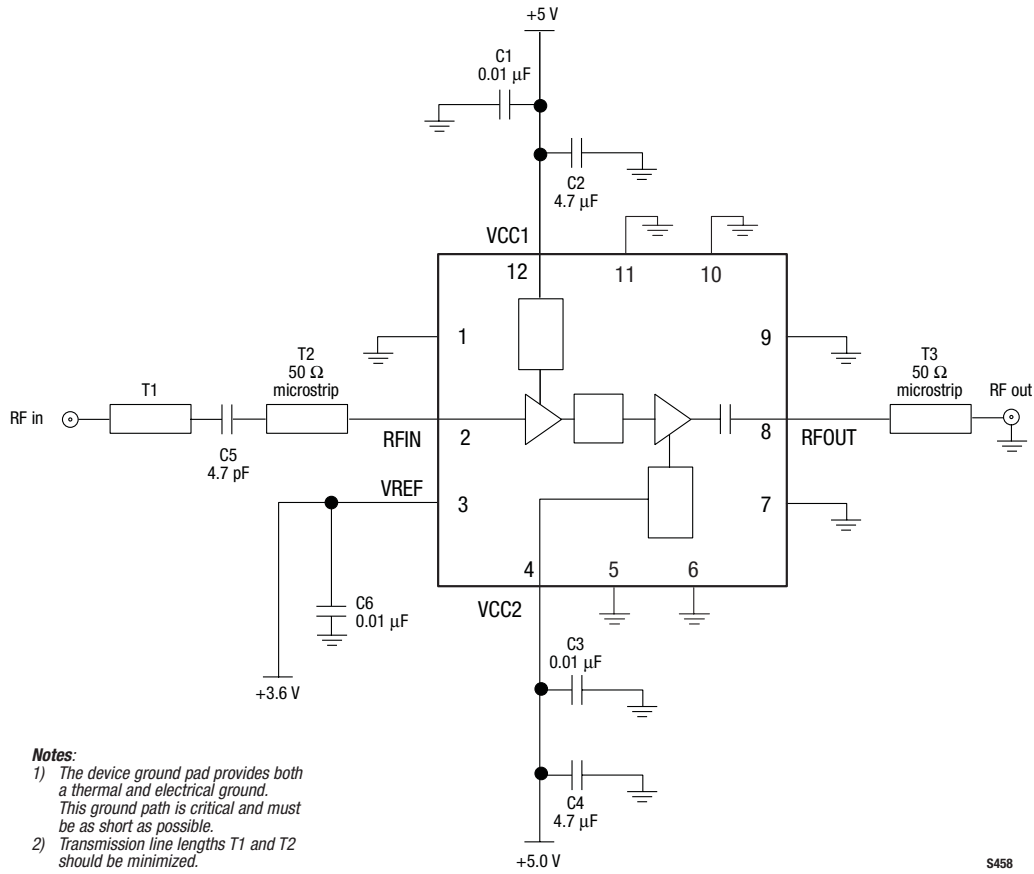

Figure 11. Evaluation Board Schematic, 1700 MHz to 2200 MHz
Skyworks SKY65105 Evaluation Board is used to test the performance of the SKY65105 PA. The Evaluation Board schematic diagram is shown in Figure 11. The schematic shows the basic design of the board for the 1700 to 2200 MHz range. An assembly drawing for the Evaluation Board is shown in Figure 12 and the layer detail is provided in Figure 13.
3. Two external output bypass capacitors (0.01 μF and 4.7 μF) are required on the VCC1 (pin 12) supply input. The same two capacitors are also required on the VCC2 (pin 4) supply input. Both capacitors should be placed in parallel between the supply line and ground. Also, a bypass capacitor of 0.01 μF is required on the VREF input (pin 3). See Figure 11 for a detailed diagram.